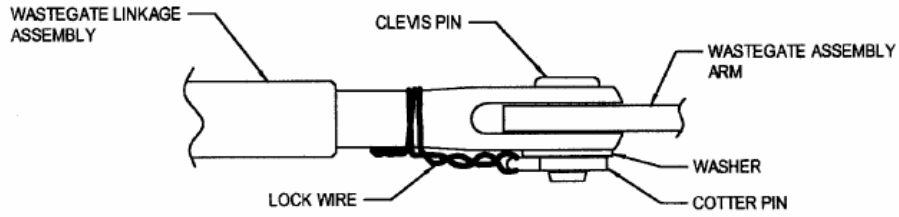

Figure 1
- F. Reinstall the wastegate linkage assembly. Install a lock wire (MS20995C32) through the eye of the cotter pin used to secure the clevis pin and washer at the linkage assembly and wastegate arm connection (Refer to Figure 1). Terminate the lock wire around the linkage assembly clevis. The lock wire prevents the clevis pin from rotating and extends the service life of the clevis pin, wastegate linkage assembly, and the wastegate.